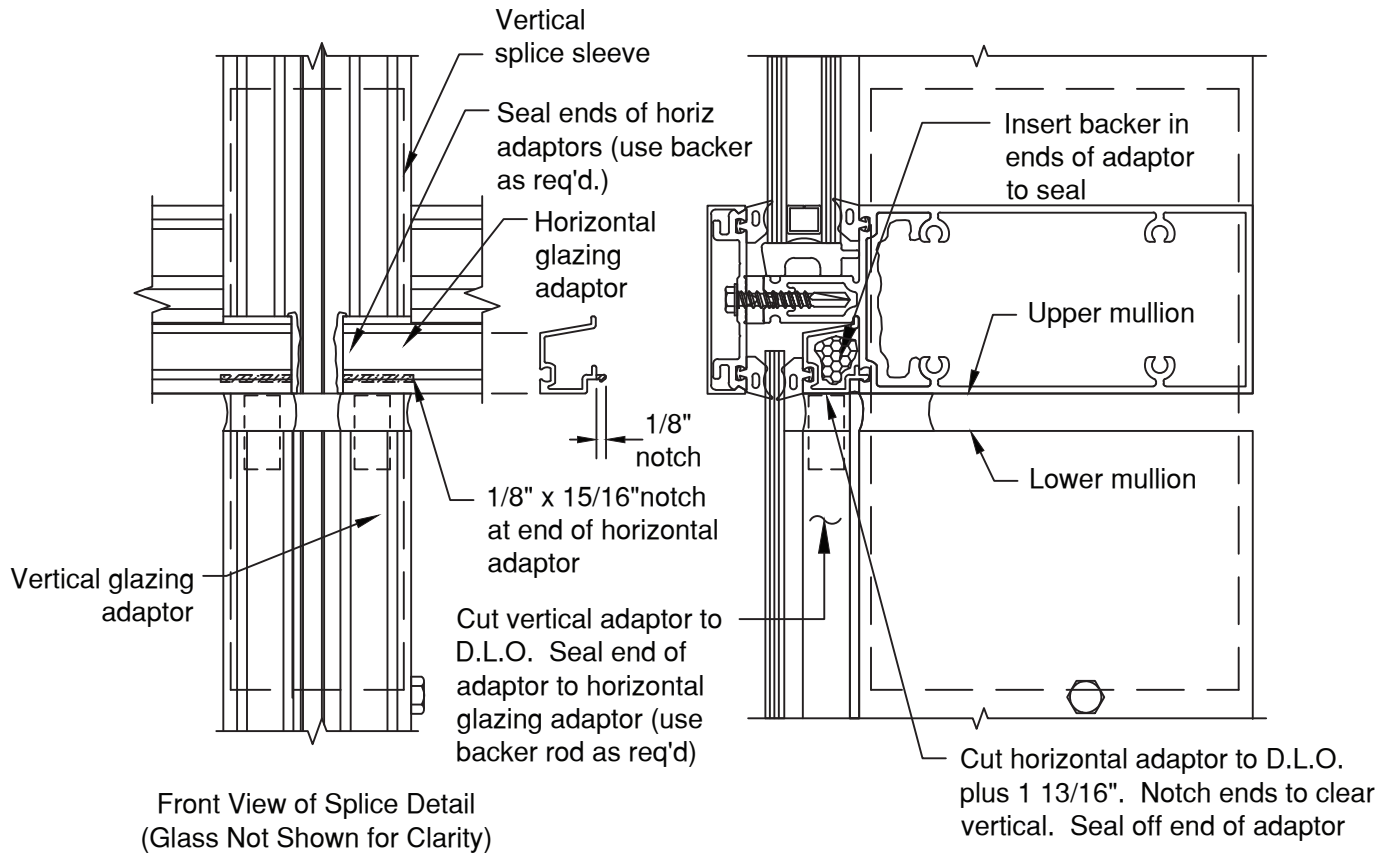

Figure 35
- B.3 **SSG MULLION SPLICES:** Splices must be located directly below a horizontal. Run horizontal adaptor through, stopping the vertical adaptor at the mullion splice. Notch horizontal adaptor to clear vertical mullion and seal per **FIGURE 35, page 15.**